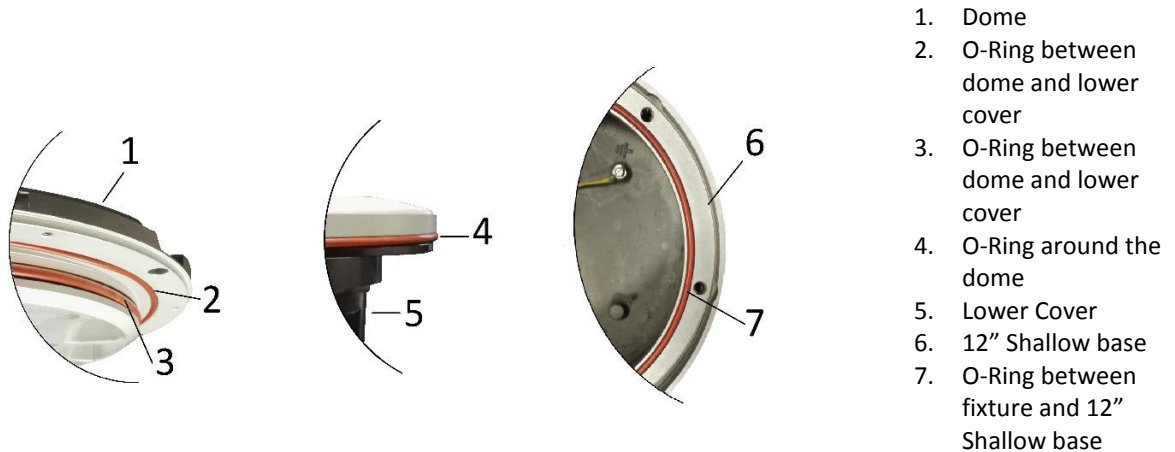

Figure 18 – Fixture Gaskets
- O-Rings between dome and lower cover (Figure 18 – n°2 and 3);
Verify the correct position of the two O-Ring between dome and lower cover (Figure 18 – n°2 and 3); mount the lower cover on the dome and fasten it by means the six
- O-Ring around the dome (Figure 18 – n°4);
- O-Ring between fixture and shallow base (Figure 18 – n°7);